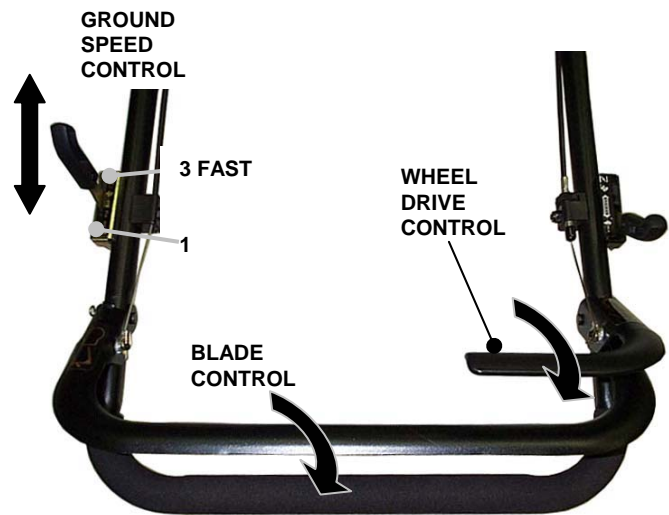

FIGURE 4.4
2. To check for proper drive belt tension. STOP engine. Shift ground speed control to 1st and engage the wheel drive control. See Figure 4.4.